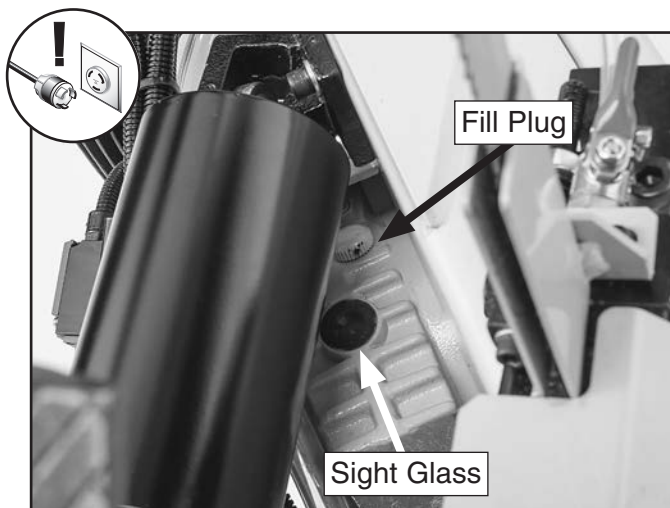

Figure 67. Gearbox fill plug and sight glass.
4. Remove fill plug shown in **Figure 67**.